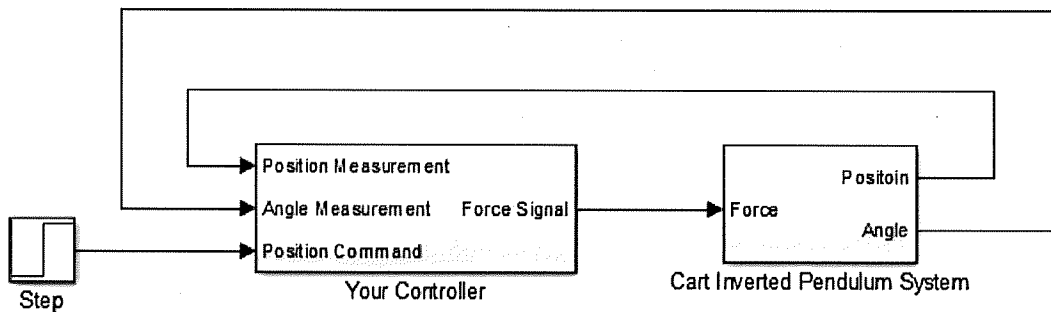

Figure 1: Control Overall Schemes
In this lab, you will implement a Proportional-Derivative (PD) controller on a real inverted pendulum on a cart system. By changing the controller gains and filters used to reconstruct states of the system, you will gain intuition about how these aspects affect the performance of the system. The control overall schemes and the detailed schemes are shown in Figure 1 and 2 separately. As shown in the figures, there are two measurements (position measurement and angle measurement) and one control input (force applied on the cart). Roughly, the PD controller implemented is in the form of